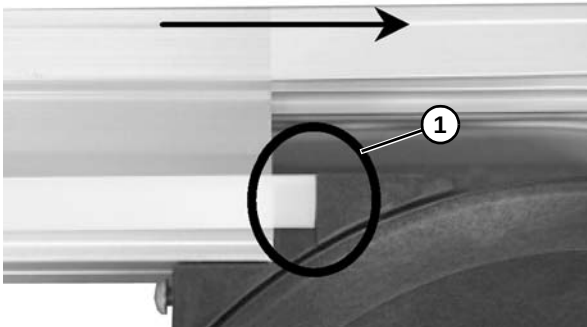

Figure 62
1. Cut the wear strip end flat (**Figure 62, item 1**). Make sure there is no gap created at the plastic molding part.